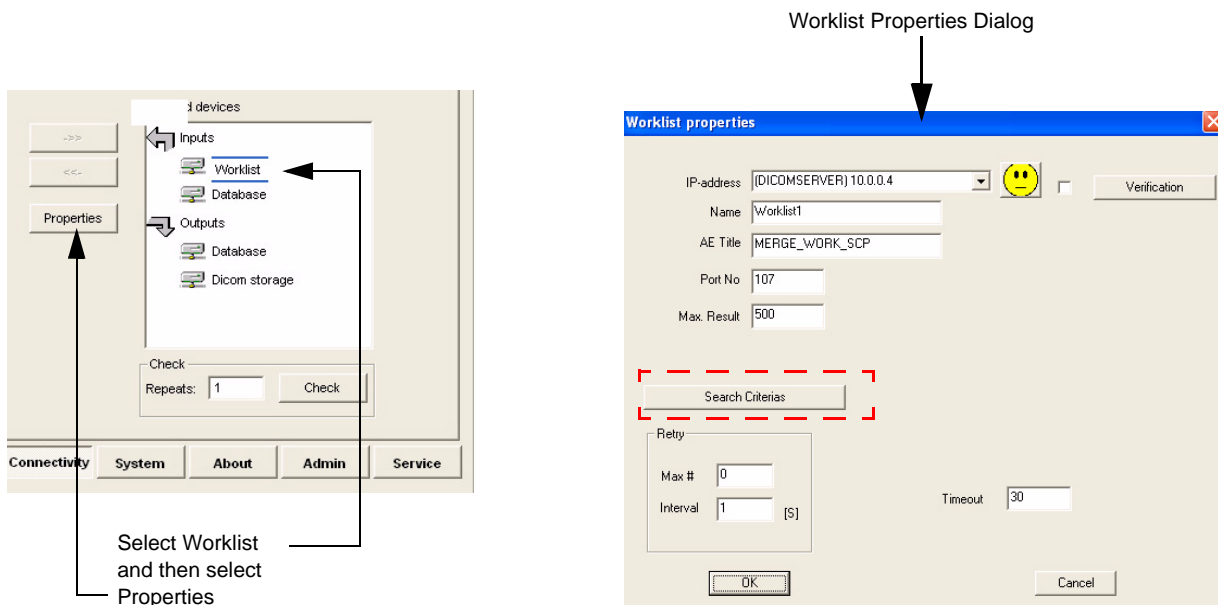

Figure 3-117 Select Worklist Properties Dialog Box
- 7.) Click on "**Search Criterias**" (Figure 3-117).
The Search Criterias window opens (Figure 3-117).
- 8.) Highlight the modality filter in the list and click on "**Remove**" (see Figure 3-117).